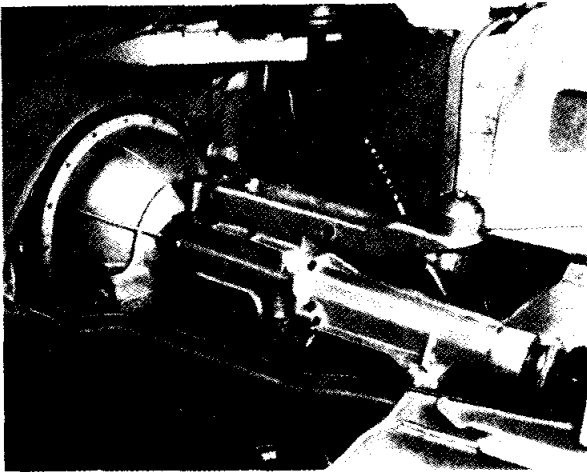

Fig. 4 Gearbox Unit ready for withdrawal.
- (k) Remove nuts and bolts from bell housing and withdraw gearbox (Fig. 4).